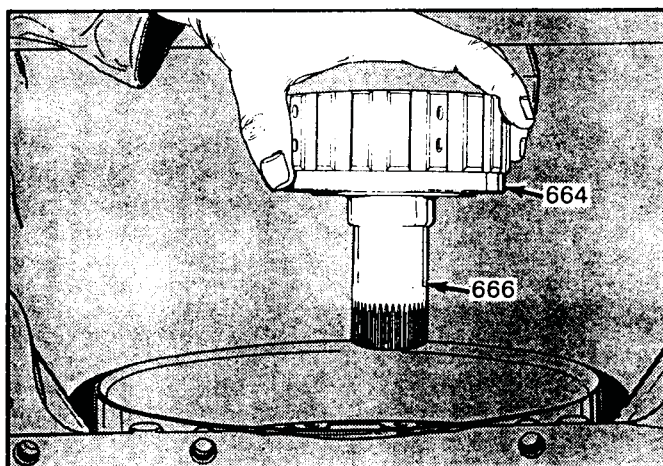

Figure 97
4. Install entire assembly into the transmission by rotating into position as shown in Figure 97.